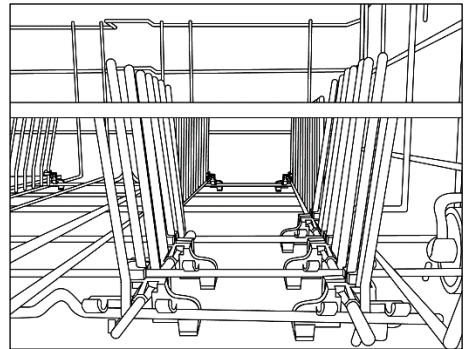
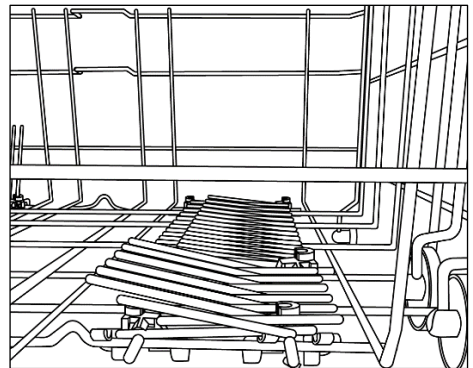

Figure 2
Figure 3
- The dishwasher is fitted with 3/4" threaded connector (fig. 2).
- **WATERBLOCK (fig. 3)**
2. Then slowly release into the correct position (fig. 2).
N.B.: NEVER LIFT OR LOWER THE BASKET FROM ONE SIDE ONLY (fig. 3).
In the lower basket you can find the foldable racks (fig.2 and fig.3) useful to provide the best stability to the dishes. With not standard dimension and/or shape ones you can raise/lower the racks to guarantee maximum load flexibility.
- For ease of cleaning, the central container is removable (fig. 2).
- Remove the gauze filter (fig.3) and wash the whole unit under a jet of water. If necessary a small brush can be used.